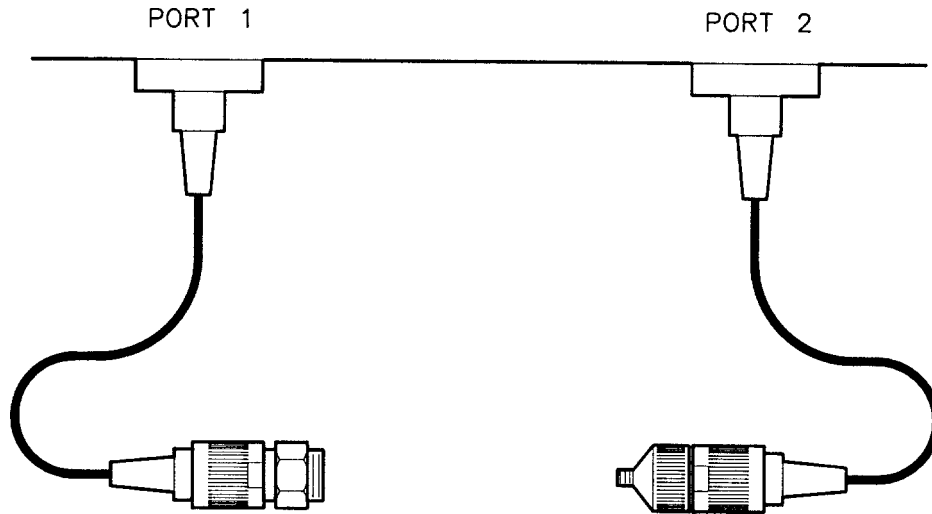

Figure 4-7. Equipment Configuration
1. Ensure that cables are connected to port 1 and port 2 (as they were connected during the calibration procedure). (see Figure 4-7).